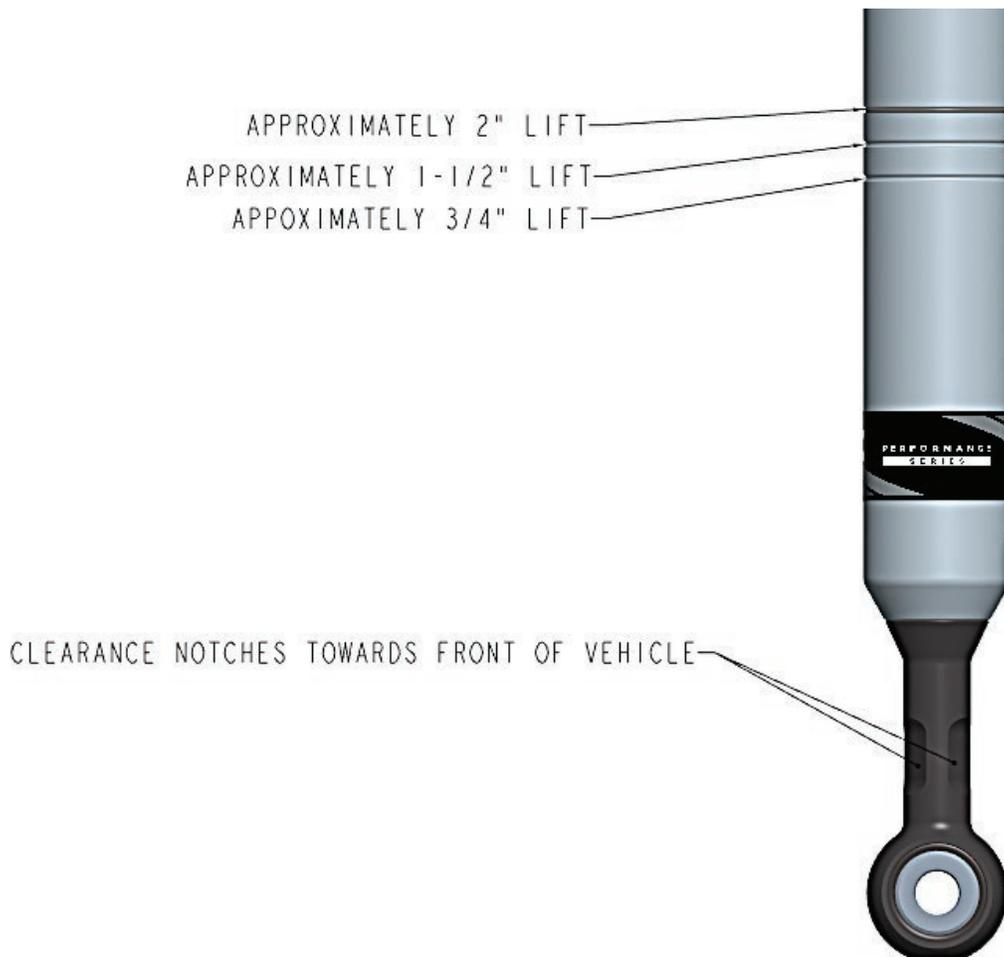

Figure 5: Illustration of groove/lift height options
- 5a. Select snap ring groove based on desired lift height (Figure 5).
- 5c. Use professional spring tool to install FOX assembly from 5b to OEM spring, top mount, and hardware. Take care that FOX decal faces to front of vehicle while the “OUT” text on the top mount is pointing outboard. Clearance notches should face to the front of the vehicle (Figure 5). FOX spring seat rotates freely so OEM spring orientation can be used. Review your notes taken from 4a.